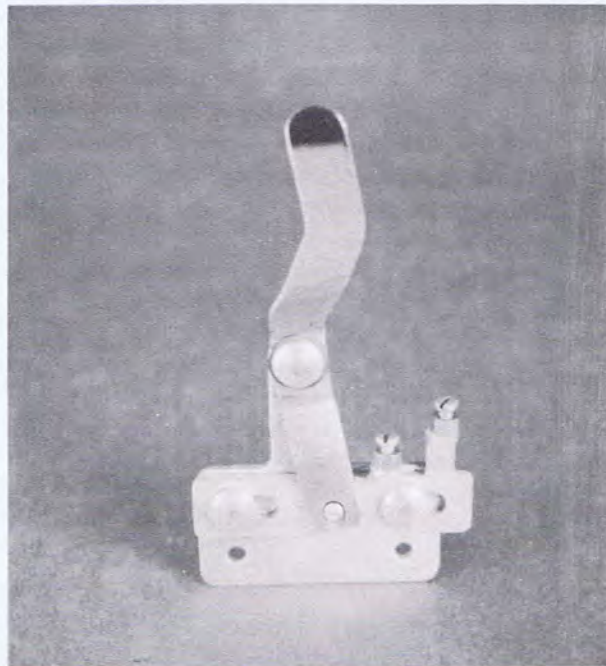

FIGURE 62 MATHEMATICAL ATTACHMENT
4. Cap and Fig Alignment (Mathematical Attachment) (Figure 62)
5. Denominator and Numerator Alignment (Figure 62)